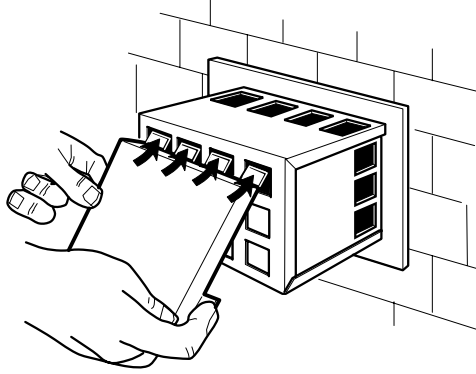
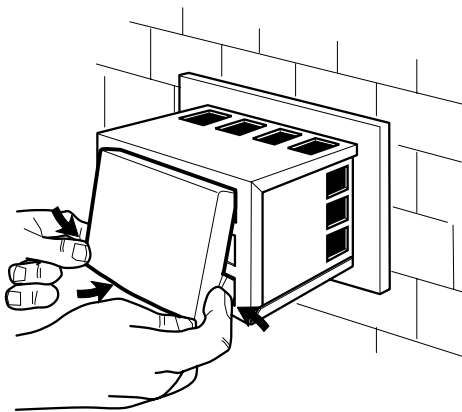

Fig. 26
Fig. 27
- 12 Fit the clip on the deflector plate to the face of the terminal. Locate the lugs on the top edge of the deflector into the upper holes on the front face of the terminal, see Fig. 26. Carefully depress the sides of the deflector and locate the side lugs into the holes in the terminal as shown in Fig. 27.